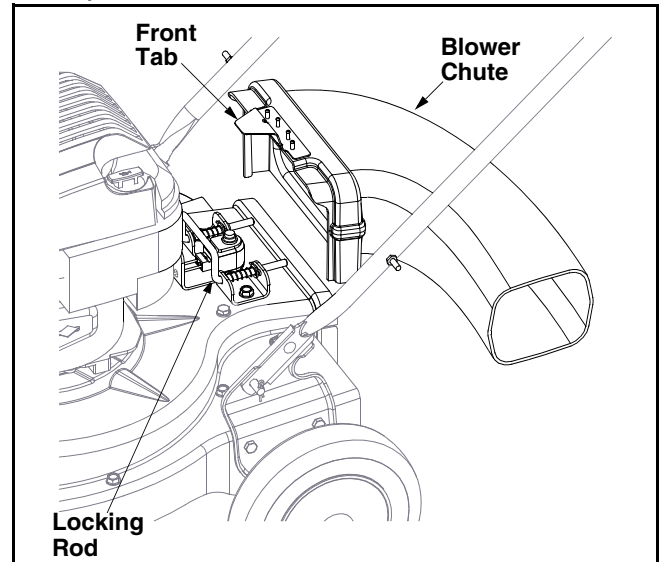

Figure 5
- Grasp blower chute with one hand and slide locking rod of the mounting bracket with other hand toward the engine. Use end of the mounting bracket as leverage when sliding the locking rod. See Figure 5.
- Slip blower chute over rim of the discharge opening and release locking rod to secure chute in place. Make sure safety switch button is fully depressed by the front tab on the blower chute. See Figure 5.
- Grasp blower chute with one hand and with the other, pull the lock rod on the mounting bracket toward engine to release. Refer to Figure 5.